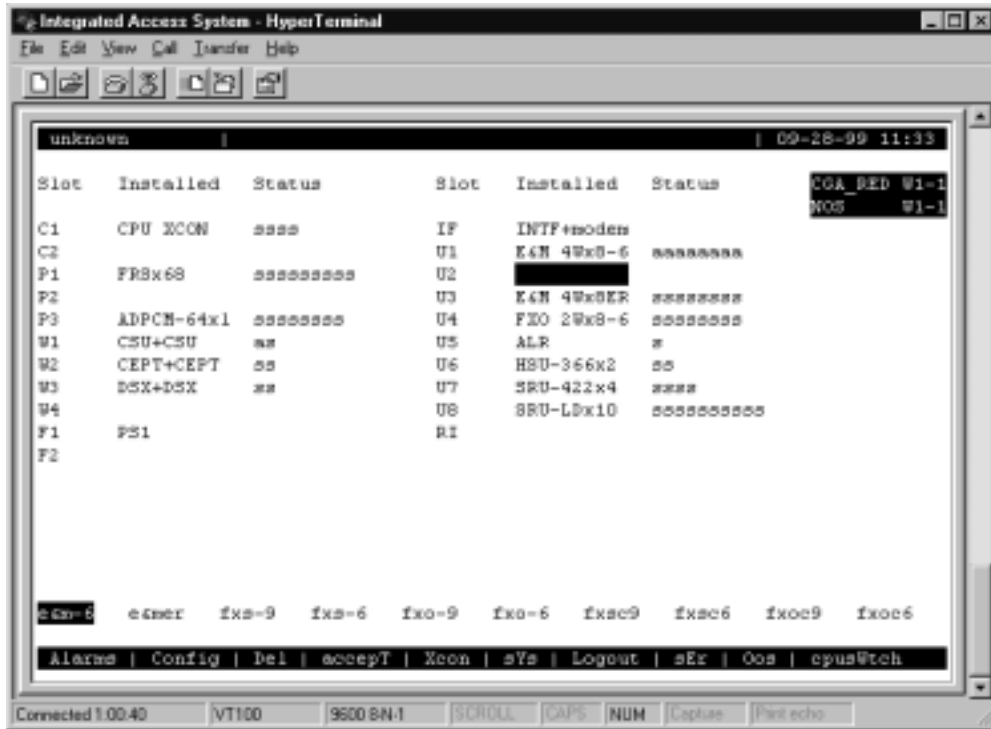

Figure 4-21. Typical Card Slot and Type Selection
2. Place the cursor on the first user card slot that will have a card. In Figure 4-21, slots U5 through U8 will be assigned to 30 time slots on the E1 WAN port.
4. Select the type of voice card from the types listed above the bottom line of the screen, as shown in Figure 4-21. In that screen, **e&m-6** is chosen as the card type (E&M, 600 ohms).